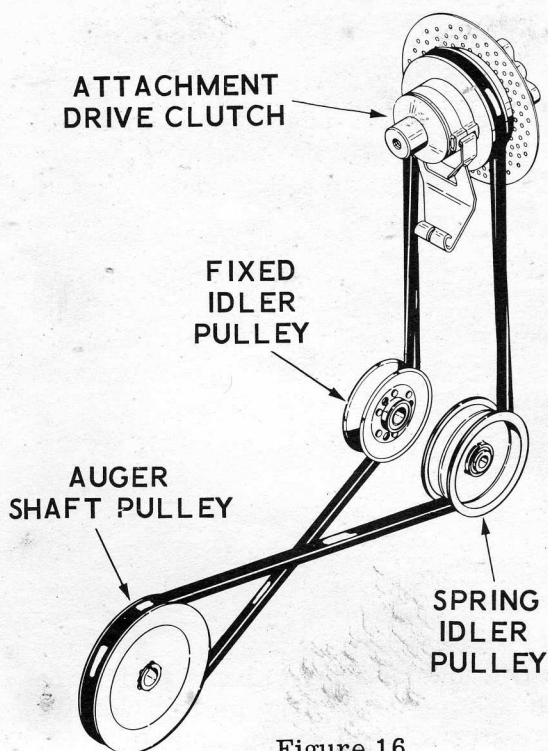

Figure 16.
13. See Figure 16. Place the belt under the "fixed" idler pulley and around the "auger shaft" pulley. Push down on the "spring idler" pulley lever and locate the belt on the underside. Check the belt to make certain it is correctly installed with the "vee" side in the vee groove pulleys and the "flat" side in the flat groove idler pulley.